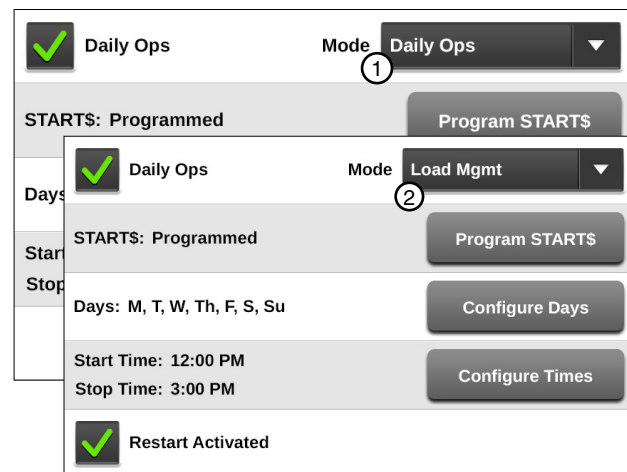

Figure 92-1 Daily Ops Screen
- If the current day is selected in Daily Start/Stop, and it is the start time, the START\$ program runs and the machine starts. Refer to Figure 92-1.